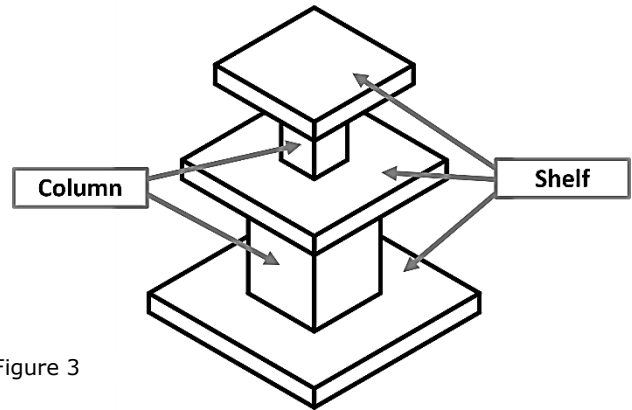

Figure 3
- c. Particular screws were used to assemble the display's columns to the shelves as explained in Figure 3.
15. Table 4 shows some of the tools which can be used to manufacture the display in Figure 3. Fill in the tool list by writing the names and use of each tool.